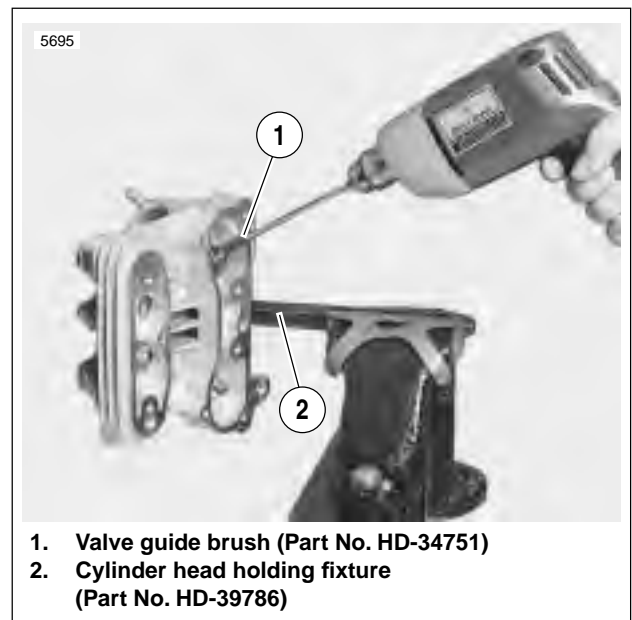

Figure 3-77. Cleaning Valve Guides
- See Figure 3-77. Thoroughly clean valve guide bores using VALVE GUIDE BRUSH (Part No. HD-34751) and hot soapy water.